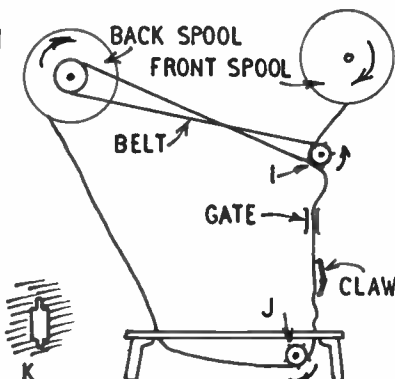

Fig. 8—Winding mechanism
For the complete automatic winding mechanism, two sprockets are added, to feed the film through the projector. The whole system will become clear from Fig. 8. The front spool rotates freely on an axle, as described. Sprocket (I) turns in the direction of the arrow, feeding the film down towards the gate. A small loop of slack film must always remain between this sprocket and the gate, so that the claw mechanism can work. Similarly, a little slack remains below